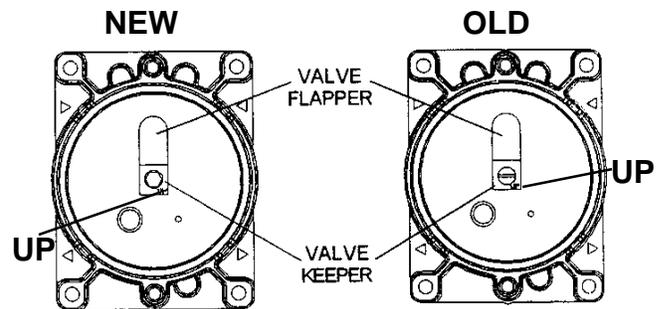

FIGURE 17 - INSTALL O-RING, INTAKE VALVE AND VALVE KEEPER
3. Install the NEW valve keeper on top of the NEW intake flapper so that the word "UP" is visible (FIGURE 17).